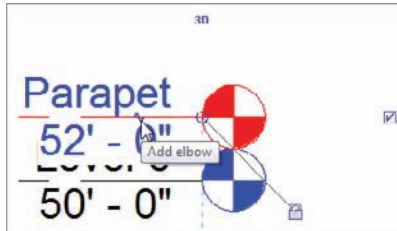

FIGURE 3.13 You can add an elbow to the elevation marker.
2. The blue items will “light up.” One of them is the choice to add an elbow, as shown in Figure 3.13. Click it, and Revit bends the level.